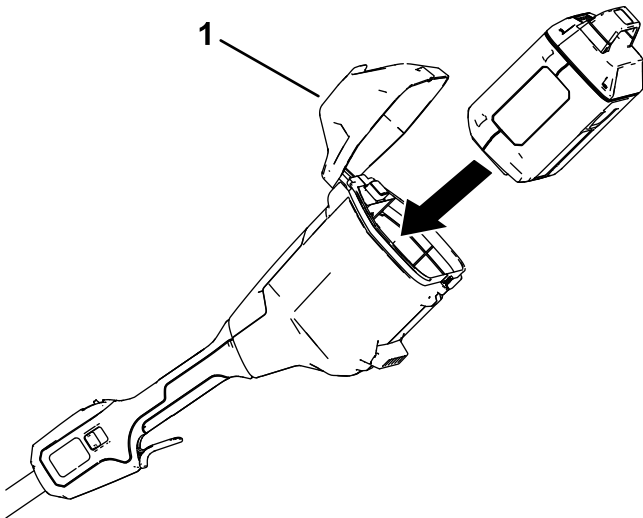

Figure 8
2. Open the battery lid (Figure 8).
3. Align the cavity in the battery pack with the tongue in the battery compartment (Figure 8).
4. Push the battery pack into the battery compartment until the battery locks into the latch (Figure 8).